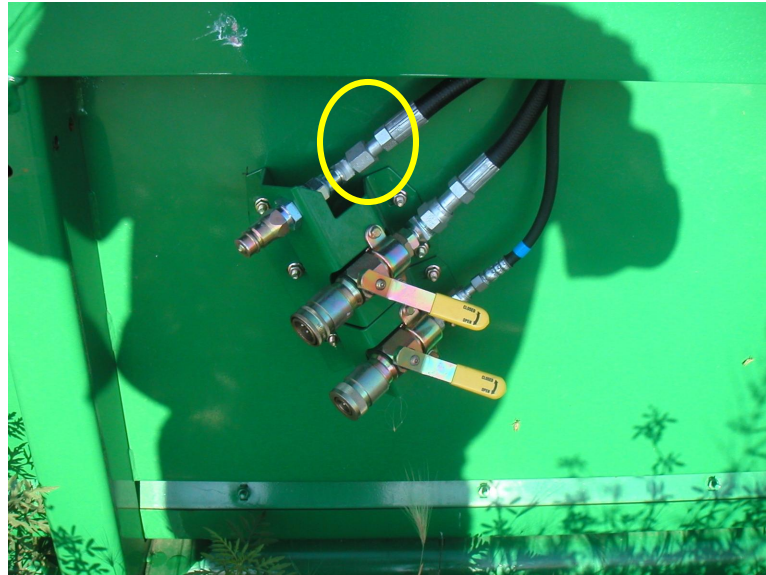

Figure 20
9. Attach reel drive pressure hose to the fitting assembly just installed. Tighten the fitting and hose. (See Figure 20)